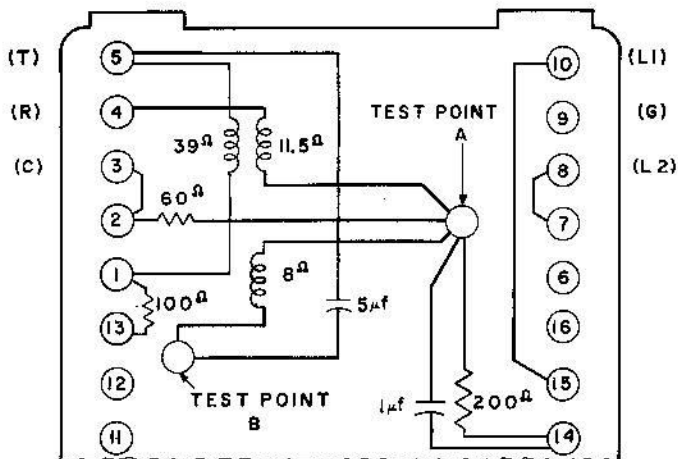

Figure 23. Transmission-unit D-38362-A internal connections.
15.2 Tinkling of straight-line ringers. When two or more telephones using straight-line ringers are connected to the same line, occasionally a ringer tinkles when another station dials, due to charge and discharge of the ringer capacitor during dial interruptions. To correct this, remove the telephone housing (§14) and reverse the connections of the tinkling ringer at the transmission unit (figure 23). The ringer bias spring then should prevent tinkling.
S.A.T.T. System A and Superimposed Ringing. The transmission-unit wiring diagram (figure 23) is for information for continuity tests, ohmmeter measurements, etc. During manufacture, the transmission-unit is sealed; do not attempt repairs in the field. If it becomes damaged, replace it.
Remove the housing (§18). At the transmission-unit (figure 23 or 24) disconnect the 3 line cord leads from terminals 8-L2, 9-G, and 10-L. Loosen the cord-clamp screw (at the right of the cord leaving the telephone), and unhook the clamp-lug from the hole in the baseplate (at the right of the ringer armature, and over the cord). Pull out the old cord.